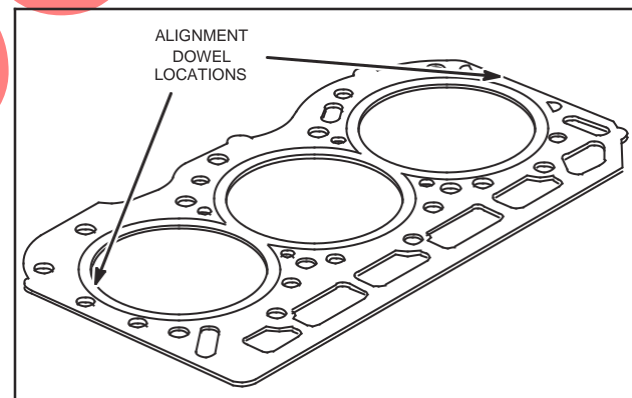

Fig. 32 – Install Cylinder Head Gasket
1. Place cylinder head gasket over alignment dowels on cylinder block, Fig. 32.